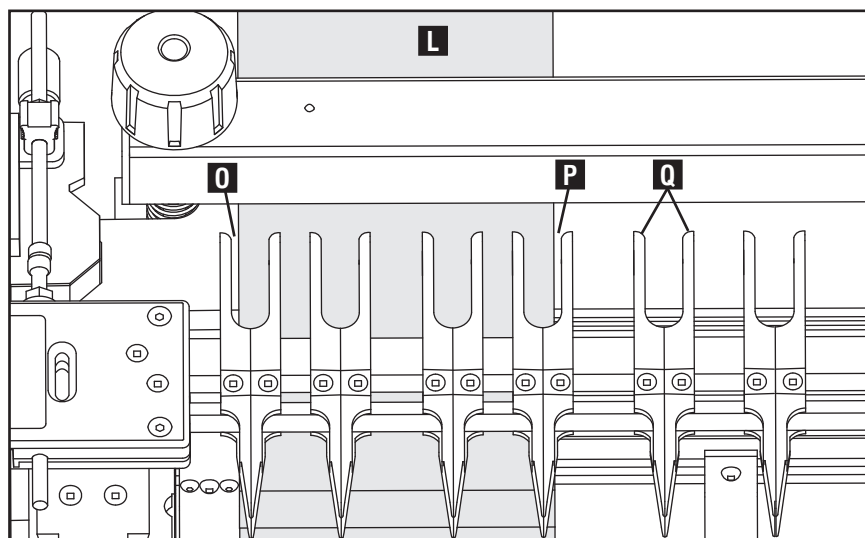

Fig. E5
5. Mount template onto the rods with the "B Pins" (yellow) label (M) facing up to the left side.
6. Slide in a scrap vertical piece (N) up against the template flush with the left guide.
7. Move the pinboard (horizontal piece) (L) forward against the vertical scrap (N) for position and then slide vertical piece down out of the way. Be sure the pinboard is flush with left edge guide (J).
NOTE: An 1/8" gap is recommended between the horizontal pinboard (L) and the fingers as shown at (O) and (P) Fig. E5. This will help maintain proper spacing at the corners.